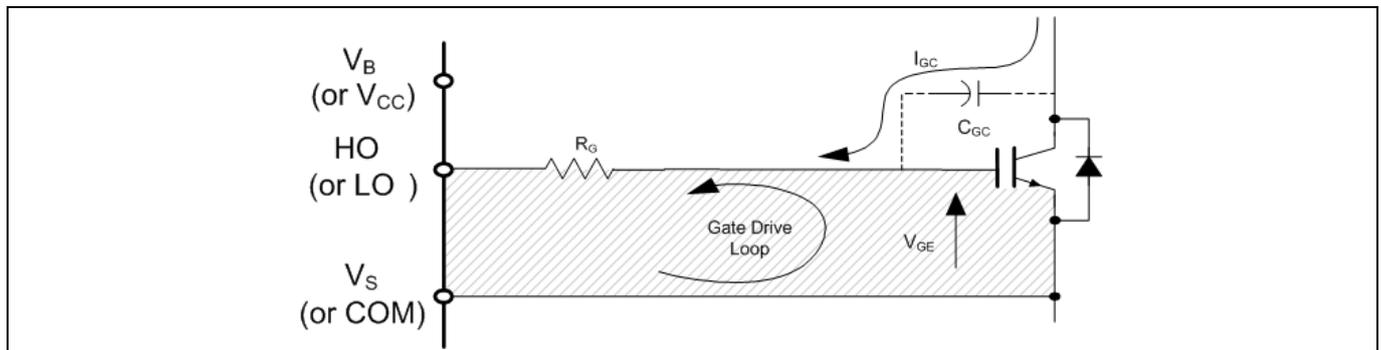

Figure 22 Avoid antenna loops
**Gate Drive Loops:** Current loops behave like antennas and are able to receive and transmit EM noise (see Figure 22). In order to reduce the EM coupling and improve the power switch turn on/off performance, the gate drive loops must be reduced as much as possible. Moreover, current can be injected inside the gate drive loop via the IGBT collector-to-gate parasitic capacitance. The parasitic auto-inductance of the gate loop contributes to developing a voltage across the gate-emitter, thus increasing the possibility of a self turn-on effect.